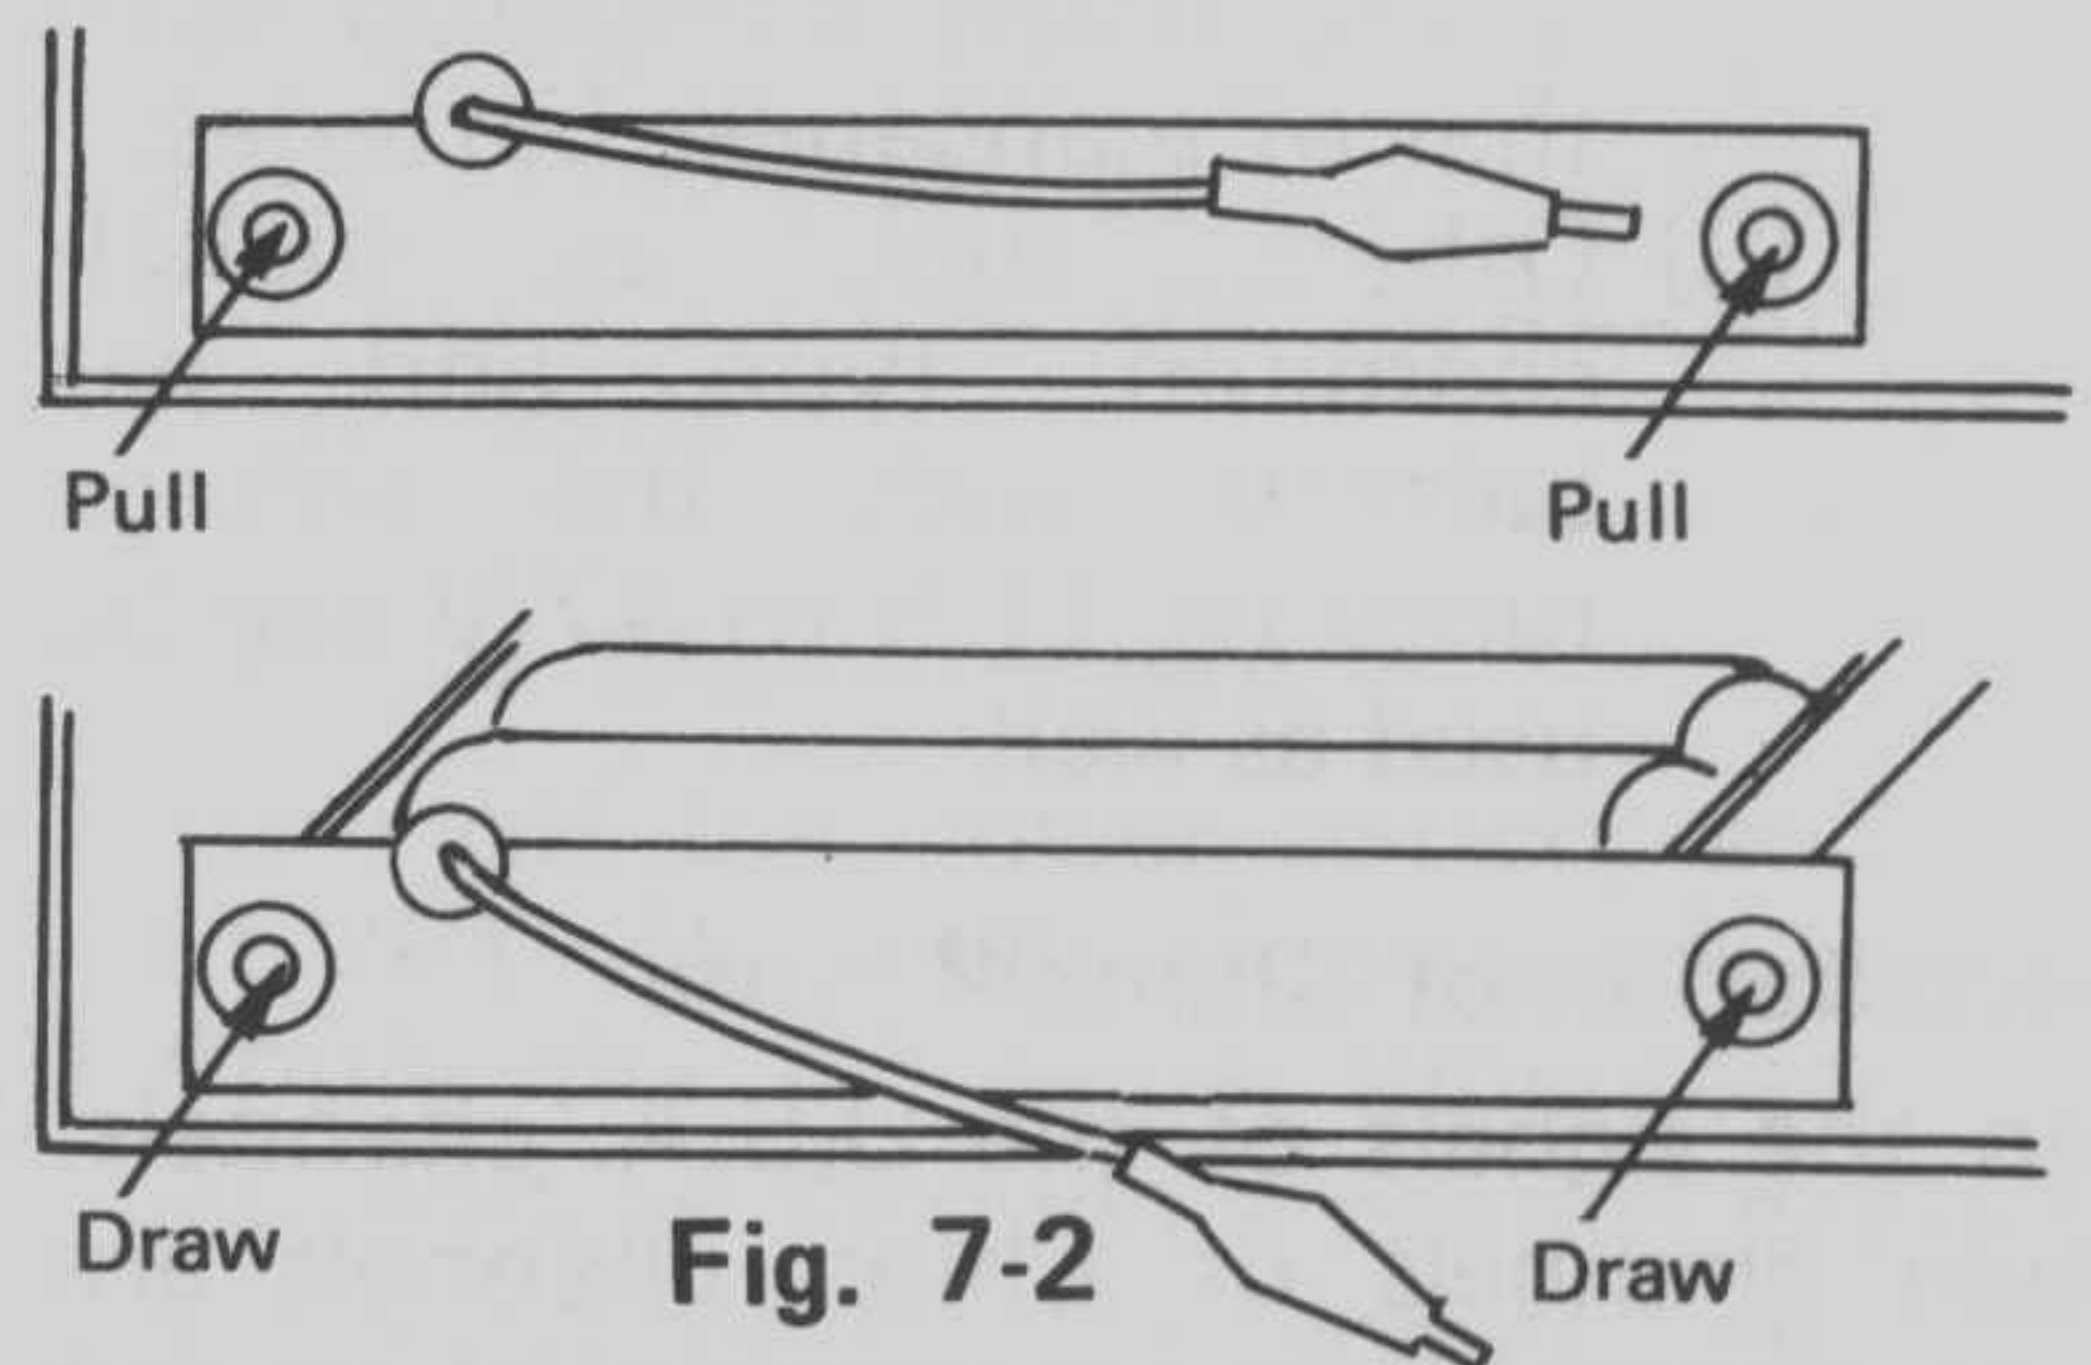
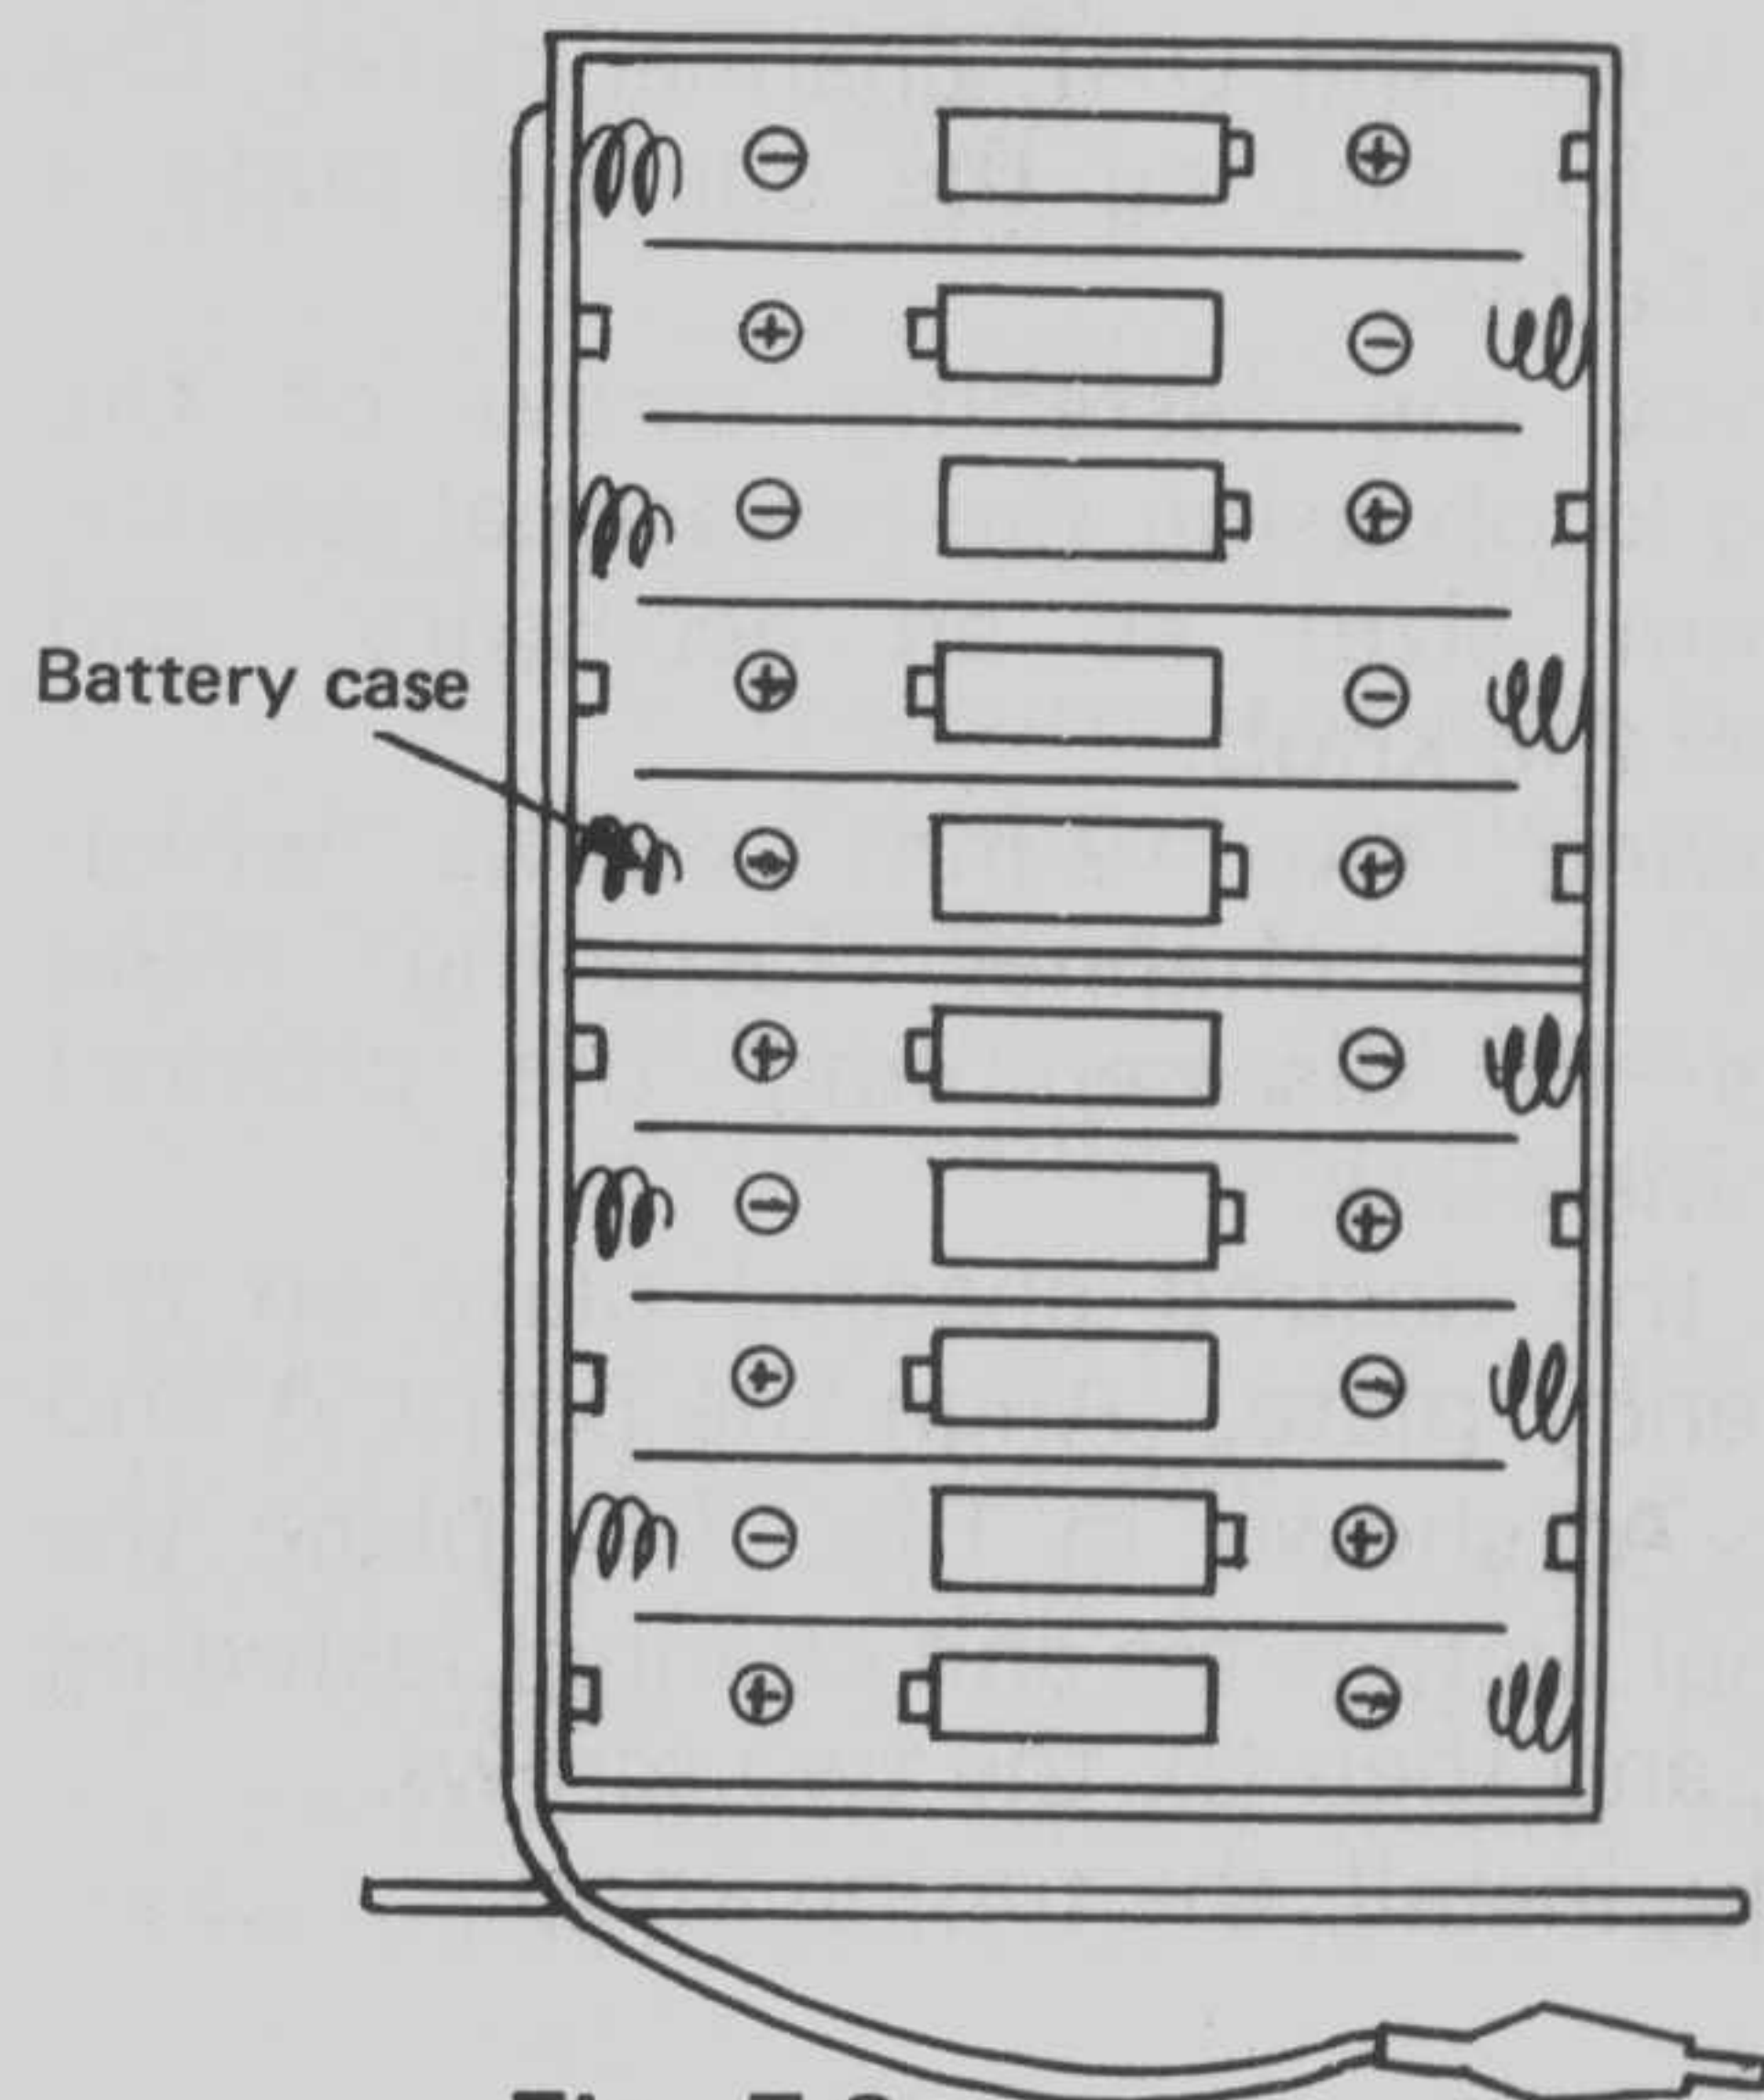

Fig. 7-2
Fig. 7-3
- (1) Turn off the power switch.
- (2) Disconnect the power plug from the power receptacle of the unit.
- (3) Pull two Nylatches as shown in FIG. 7-2, and draw the battery pack case as shown in Fig. 7-3.